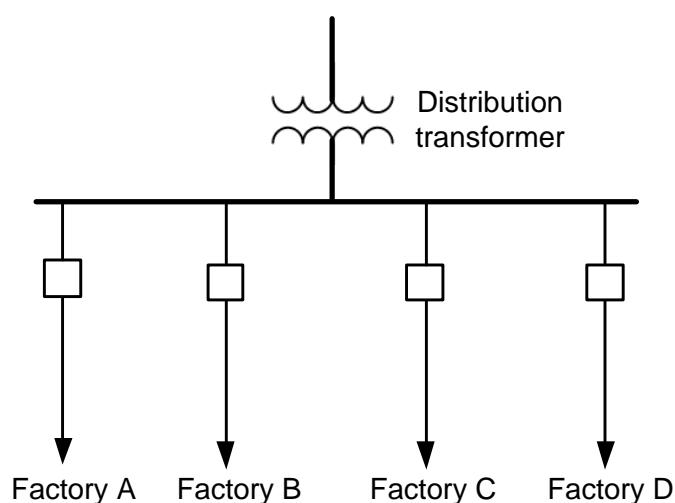

Figure 1.1
1. (a) A distribution system supplies power to four factories as shown in Figure 1.1. The maximum demand and the demand during system's peak for each factory are given in Table 1.1. Given that the Maximum Coincident Demand recorded on the system is 820 kW, calculate the following: